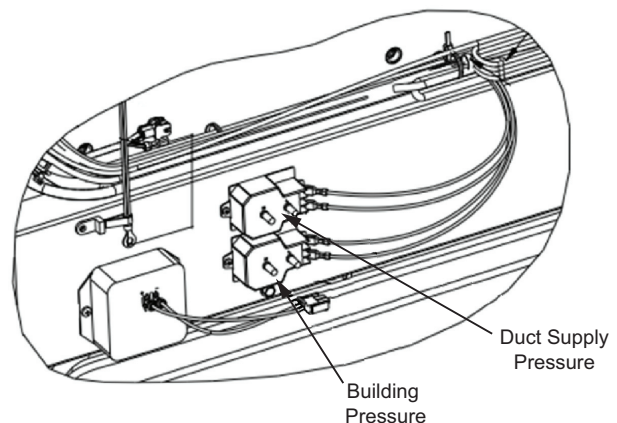

Fig. 45 — Pressure Transducer Layout (Cover Removed)
The tubing for the multi-zone VAV duct supply pressure (SP) control option should sample supply duct pressure approximately 2/3 of the way out from the unit in the main trunk duct, at a location where a constant duct pressure is desired. Connect the other end of the tubing to the high side pressure pickup port on the SP transducer. See Fig. 45 for supply pressure transducer layout
The tubing for the building pressure (BP) control should sample building pressure in the area near the entrance lobby (or other appropriate and sensitive location) so that location is controlled as closely to design pressures as possible. Keep the pressure pickup port away from exhaust inlets, supply grills, return grills, or other locations that can affect the sensor reading. Connect the other end of the tubing to the high side pressure pickup port on the BP transducer. See Fig. 45 for building pressure transducer layout.